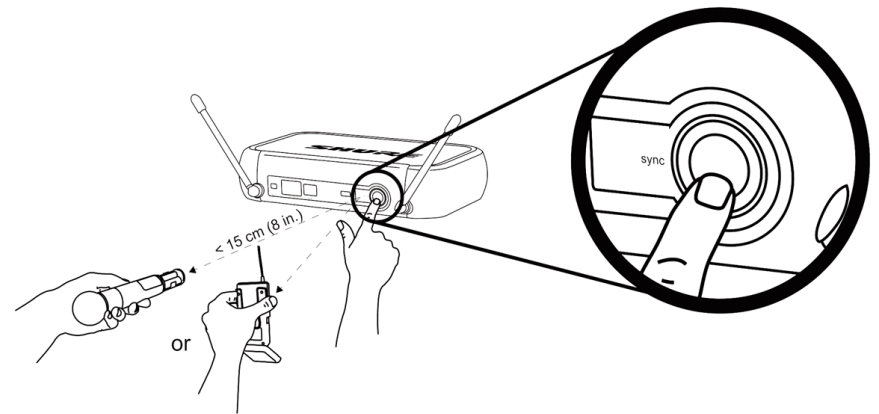

FIG. 7
- 2 Open the transmitter battery compartment to display the infrared (IR) port. (See page 28)
- 3 Expose the transmitter IR port to the receiver. (FIG. 7)
- 4 Press and hold the **sync** button on the receiver until the red light stops flashing on both the receiver and transmitter. (FIG. 7)